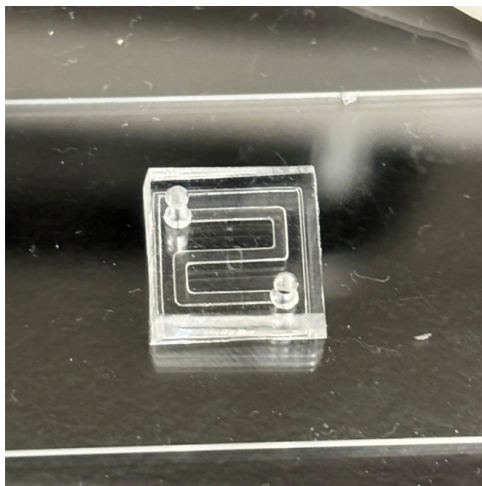

Figure 8: After Attaching PDMS Microfluidic Channel
6. Align the PDMS layer based on the Human IgG pattern on the glass and bond together (Figure 8)